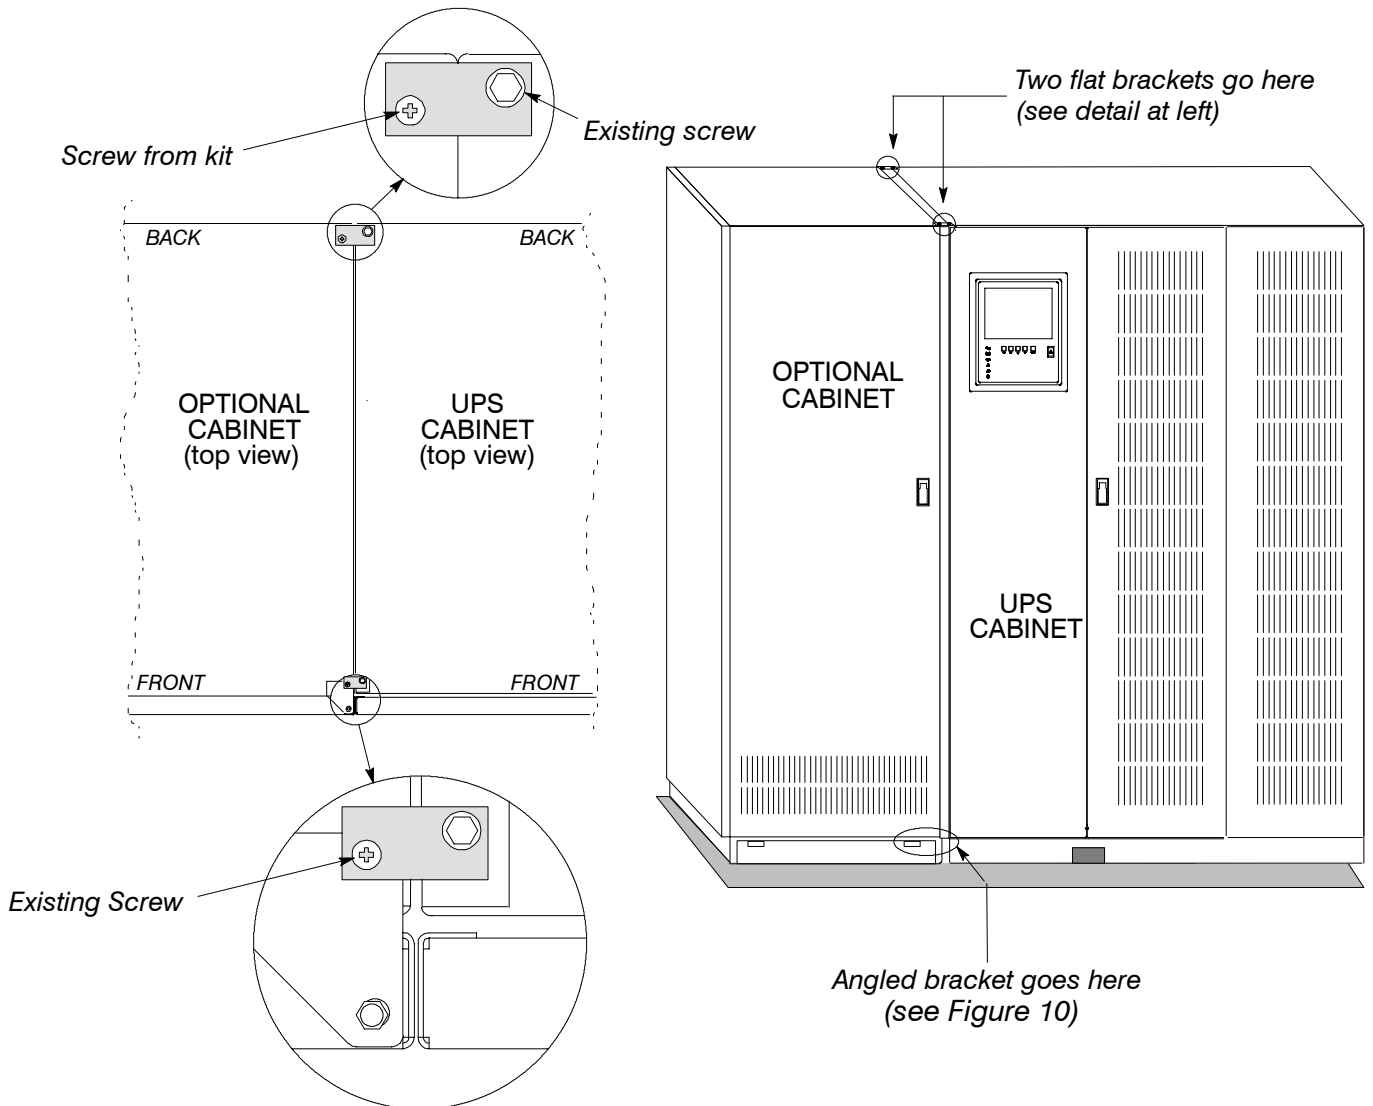
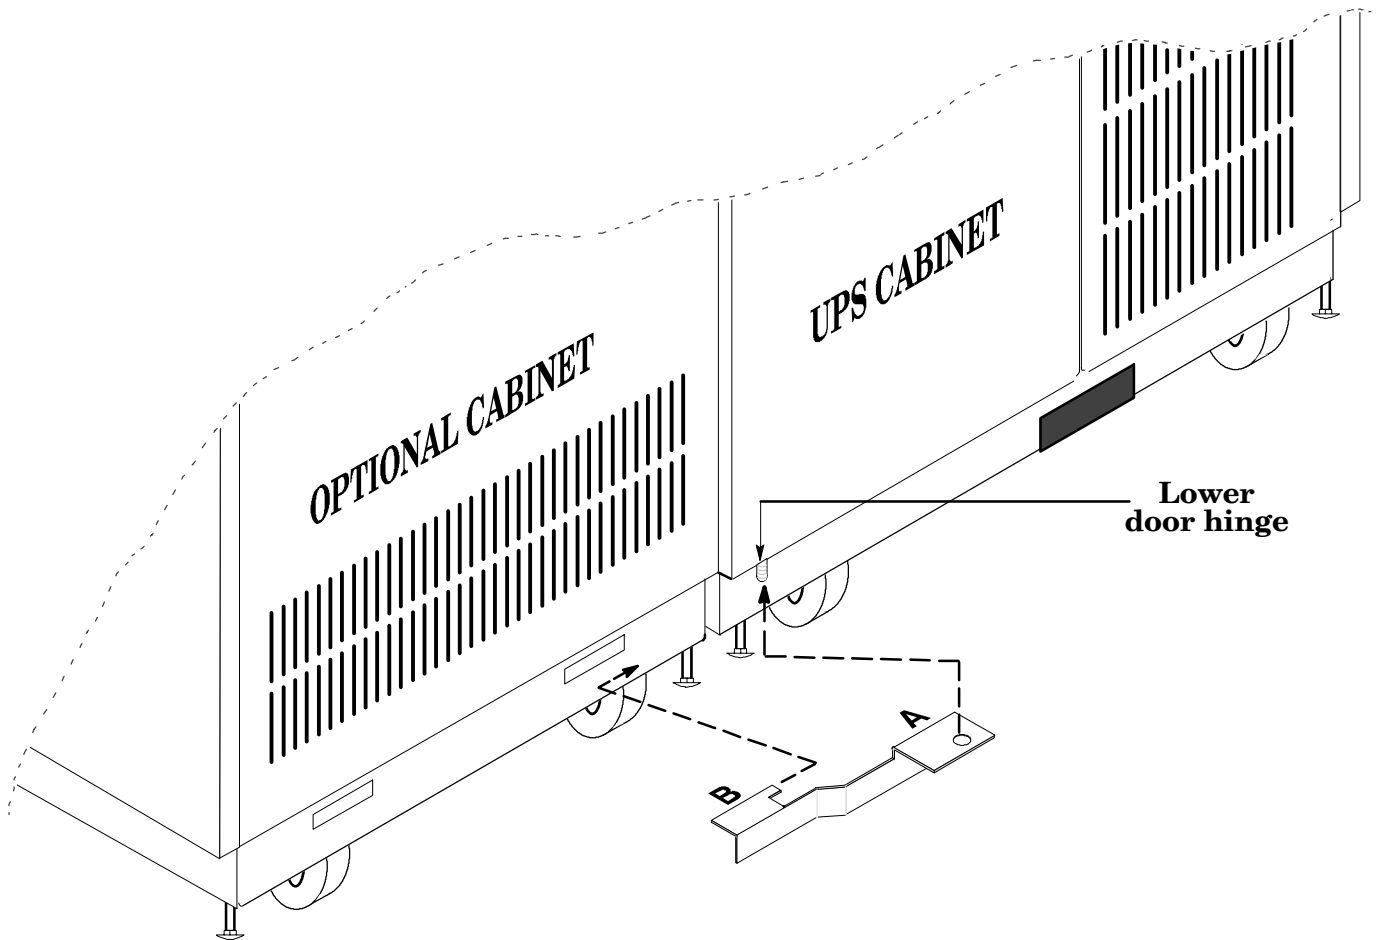

Figure 9. Placement of Joining Brackets
Figure 10. Installing the Angled Bracket
5. Three cabinet joining brackets are provided for securing each cabinet at the top and bottom. Two flat brackets connect the tops of the cabinets, one at the front and one at the back. The bottom bracket type is dependent on cabinet configuration. See Figure 9 and Figure 10. Either an angled bracket or a larger flat bracket joins the cabinets at the bottom. Attach the flat brackets to the cabinet tops first.
- Remove the screw from the top door hinge of the UPS cabinet. Remove the hex head screw from the front hole in the top frame angle on the optional cabinet. Align the small hole in one flat bracket over the screw hole in the cabinet hinge, and the large hole over the hole in the optional cabinet frame. Install the screws (see Figure 9).
9. Hold the angled bracket parallel to the floor (see Figure 10). The flange with the hole in it (labeled **A** in Figure 10) should be facing upward. The flange with the tab (labeled **B** in Figure 10) should be pointing toward the slot in the base of the optional cabinet.